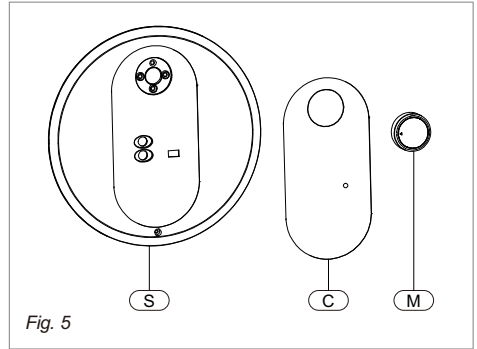

Fig. 5
The temperature of the hot water is adjusted by rotating the knob M (Fig. 5) located on the front cover. Temperature range is 55-145 °F.
- Remove rubber seal which covers the Phillips screw(Fig. 5 [S]), and unscrew the Phillips screw.
- The cover (Fig. 5, [C]) can now be removed by slightly rotate. When reassembling, work in the opposite way being careful to insert the tongue of the cover into the slot.